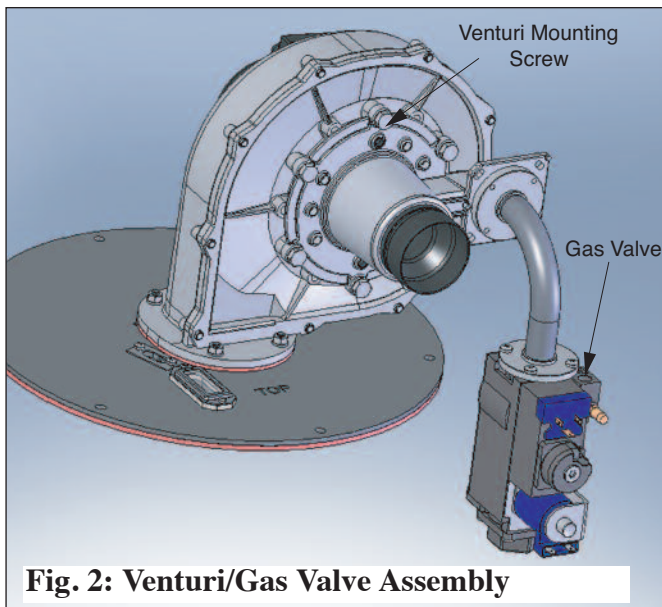

Fig. 2: Venturi/Gas Valve Assembly
7. Using the T-40 Torx wrench from the kit, remove the 6 screws securing the venturi assembly to the blower, see Fig. 2. Remove the venturi / gas valve assembly from the blower.